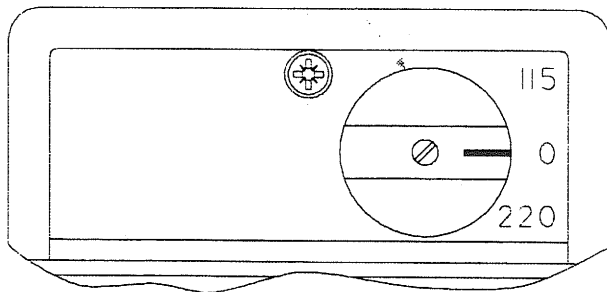

Figure 2, Voltage Change-Over
- A. Locate the power switch on the rear panel. See figure 2.